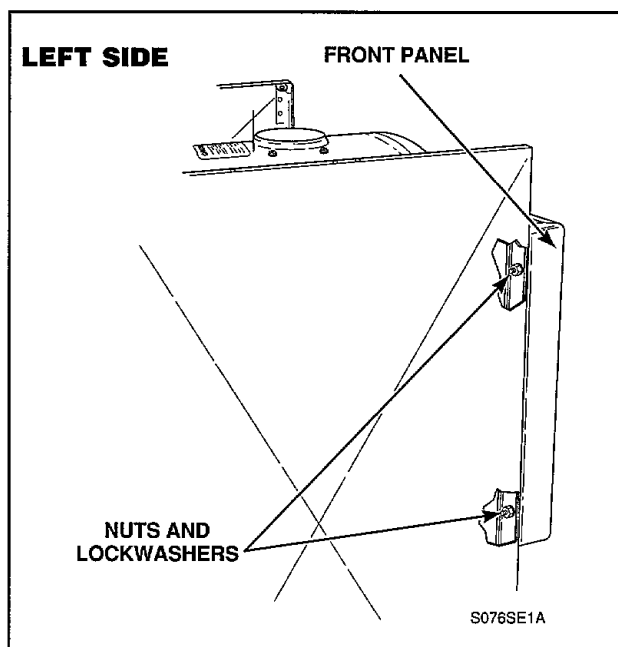

Figure 17
- l. Remove two nuts and lockwashers, *Figure 17*, holding front panel assembly to left leg (leave bolts in place).
l. Remove two nuts and lockwashers, *Figure 17*, holding front panel assembly to left leg (leave bolts in place).